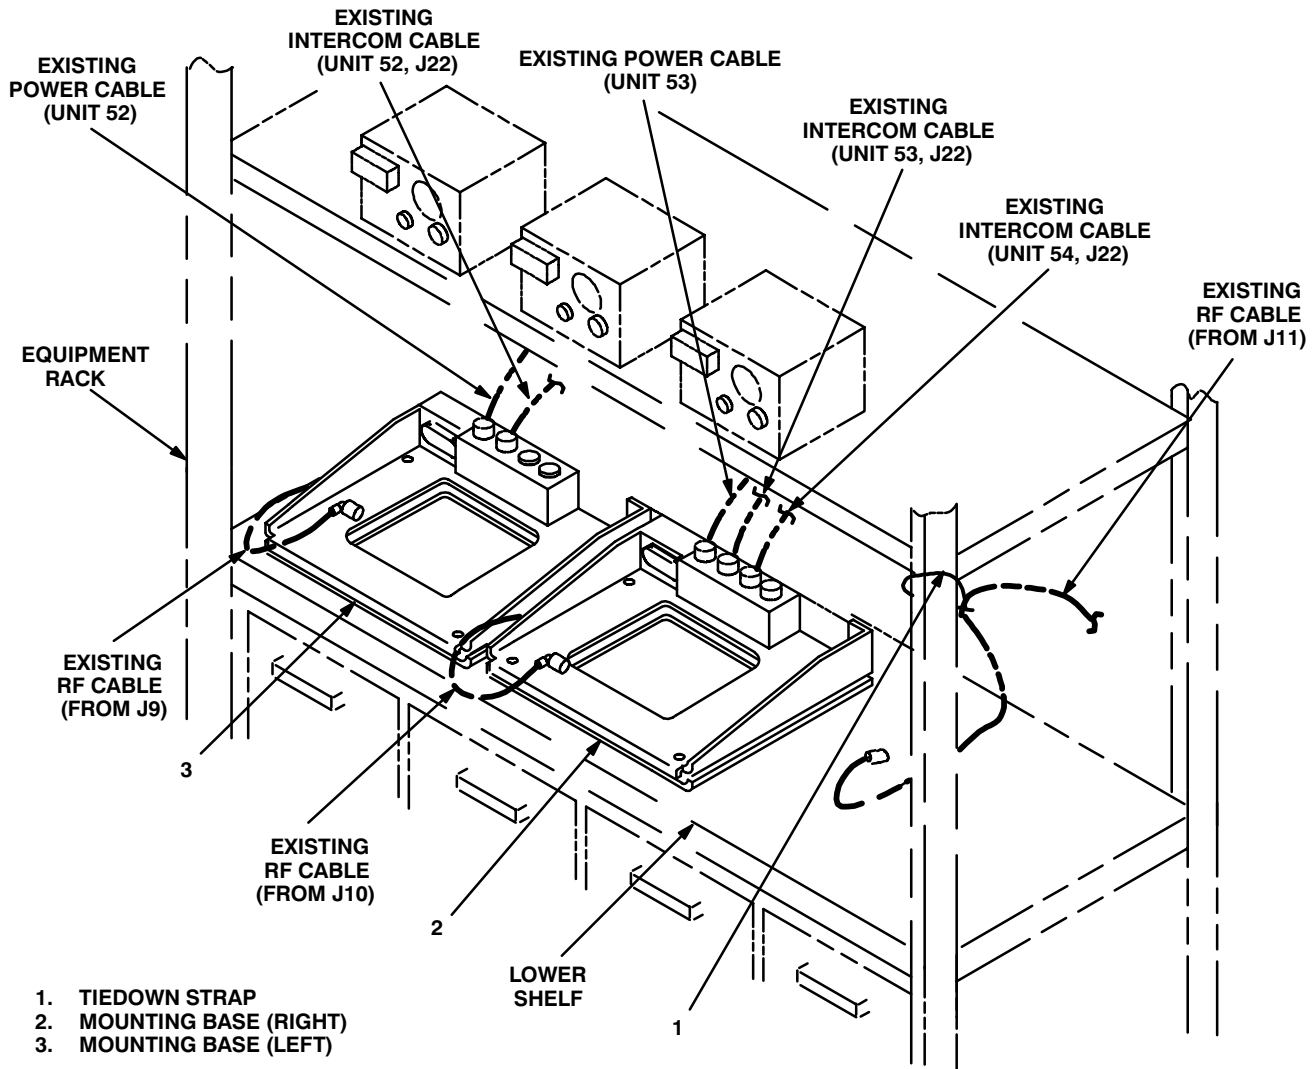

Figure 5-5 (2). Cable Installation: Interior Cabling
d. Existing RF cable from antenna entry panel connector FM-1.	Connect and secure to mast antenna base (4).
e. Existing RF cable from antenna entry panel connector FM-3.	Connect and secure to tripod antenna base (3).
f. Existing RF cable from antenna entry panel connector J11.	Position on top of lower equipment rack shelf. See figure 5-5 (2).